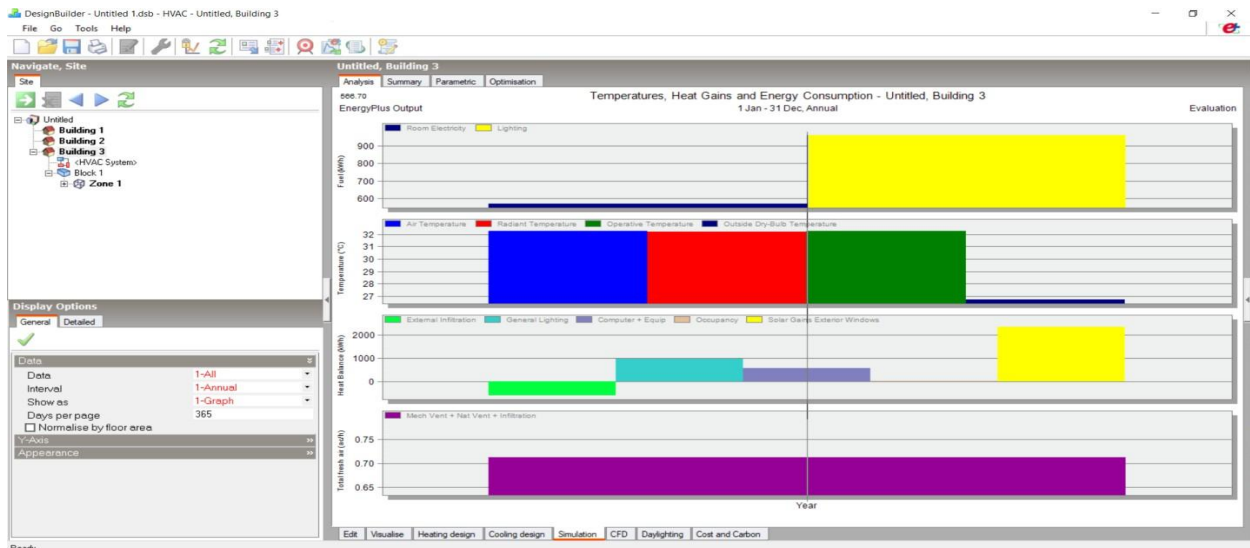

Figure 3: Temperatures, heat gains and energy consumption
- This is similar to figure 3, here all individual consumption values are shown in table whereas in figure 3 it is displayed in graph.